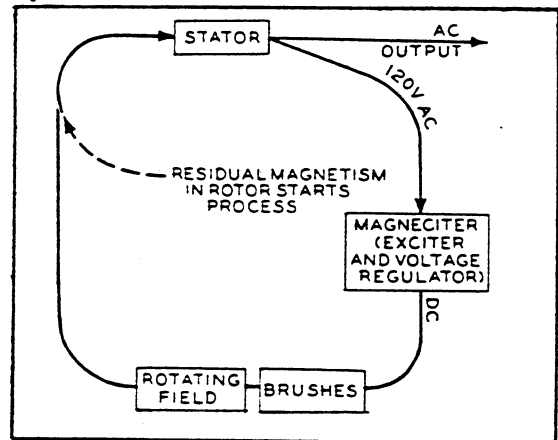

FIG. 4-1. SCHEMATIC ALTERNATOR AND EXCITER
GENERATOR: The generator is a synchronous four-pole, revolving field, externally-excited (generator mounted static exciter) type. The revolving field is coupled to the engine and rotates at engine speed. Field excitation voltage (DC) is supplied and regulated by the static exciter through slip rings and brushes to the field coils (Fig. 4-1). The alternating current output is tapped from the stator windings with the output leads terminated at the large terminal board on the output box. By changing the jumper connections, either 120/208, or 240/416 volts may be obtained.